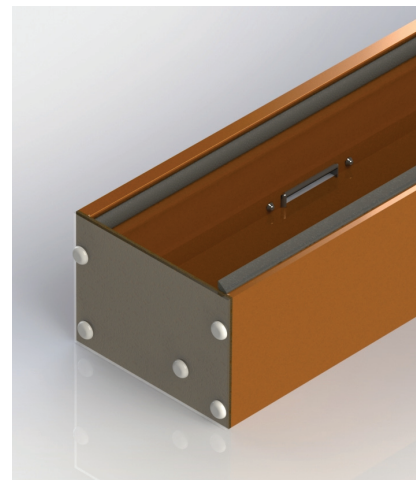

Fig. 5
- C. Apply a cap bead of sealant over all pop-rivet heads. (Fig. 5)